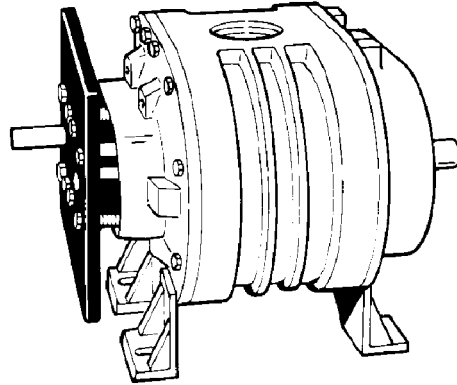

FIGURE 20
9. Attach the puller plate shown on page 11 to the drive headplate using the tapped holes used to secure the drive cover (see FIGURE 20, page 19). Tighten the bolts so that the advance of the bearings stay as uniform as possible. Bearings should be pressed until fully seated in the bore.
10. Lubricate the gear end bearing fits with a light oil as described previously. Install gear end bearings (14) as far as possible without force. Use the fabricated plate, used to install the drive end bearings, to press the bearings on the shafts as described